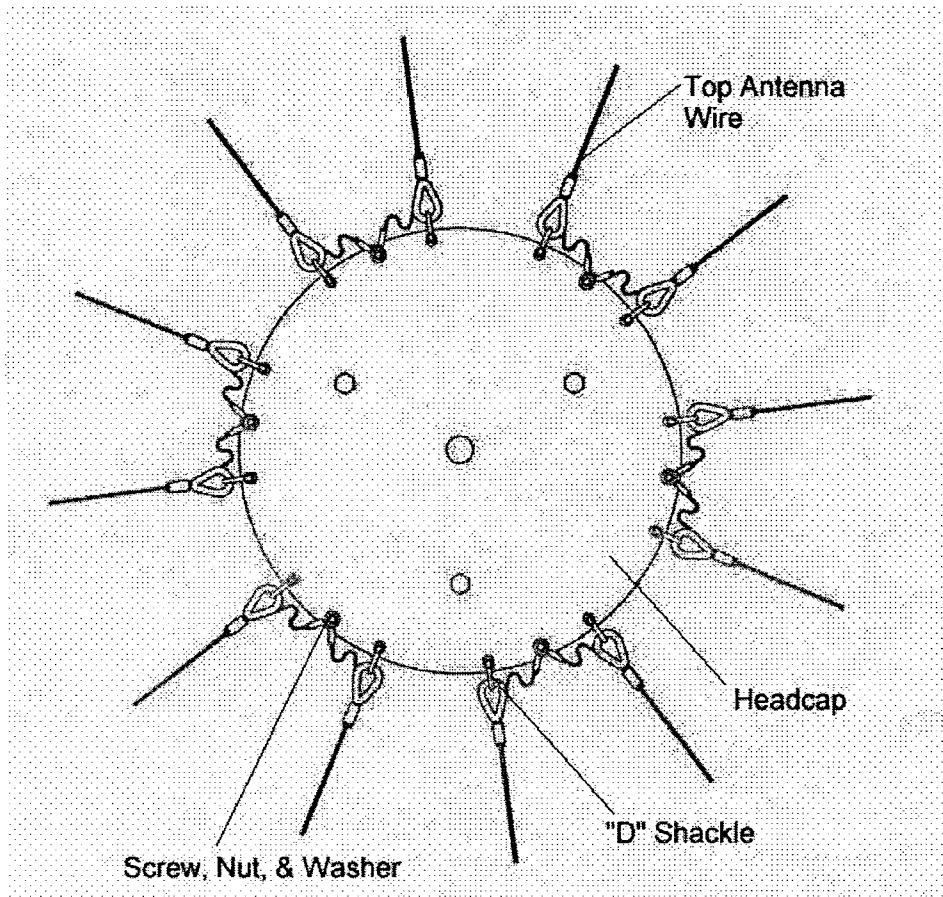

FIGURE 14B – Terminating the Upper Wires to the Headcap
Step 2 Lift each Upper Antenna Wires in turn and attach to the mast head cap using the D-shackle. The terminated tails of each adjacent pair of upper antenna wires should be secured to the head cap using nuts, screws and washers supplied. See Fig 14B